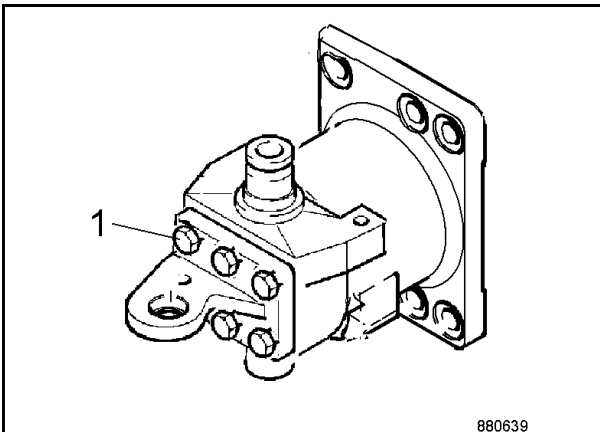

Fig. 13
19. Tighten the fastening screws 1 (Fig. 13).